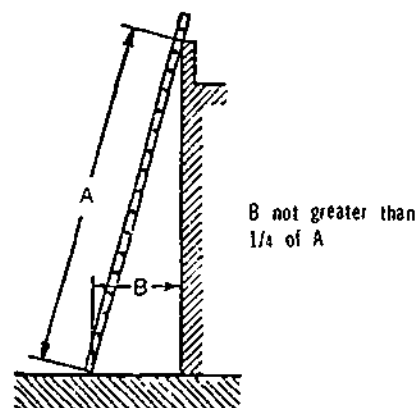

Figure 1-3. Correct Positioning of a Ladder
- 3 The top of the ladder should rest on a strong solid support with both rails touching. The ladder must be long enough to reach the job without being positioned at too steep or too flat a pitch (Figure 1-3). If possible, work should be done no higher than four rungs